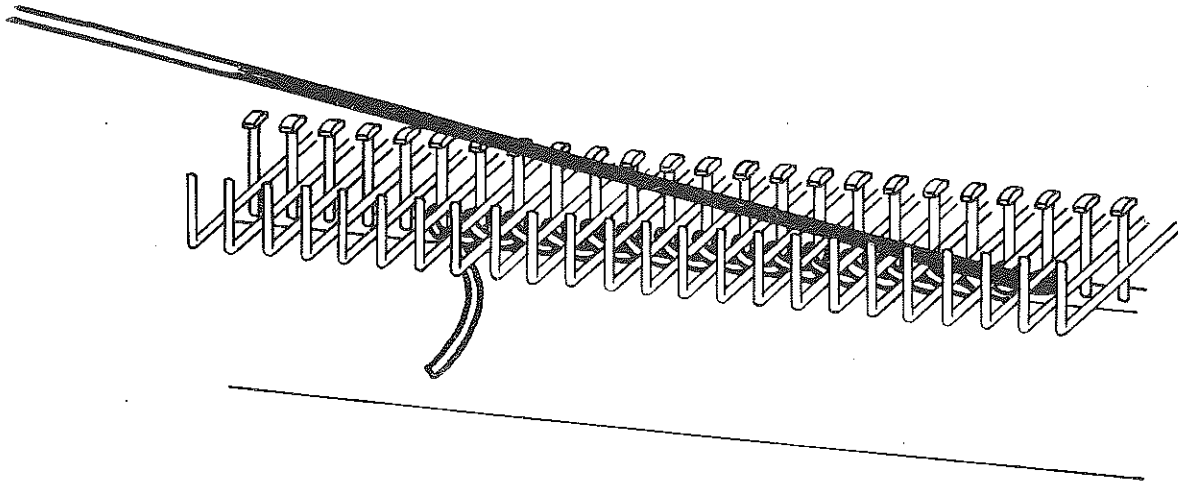

Fig. 11
E. Slide the Black Knob to the **Extreme Right** and starting from right to left place the wool in the channel between the projecting pulling pins and the comb pins. (Fig. 11.)